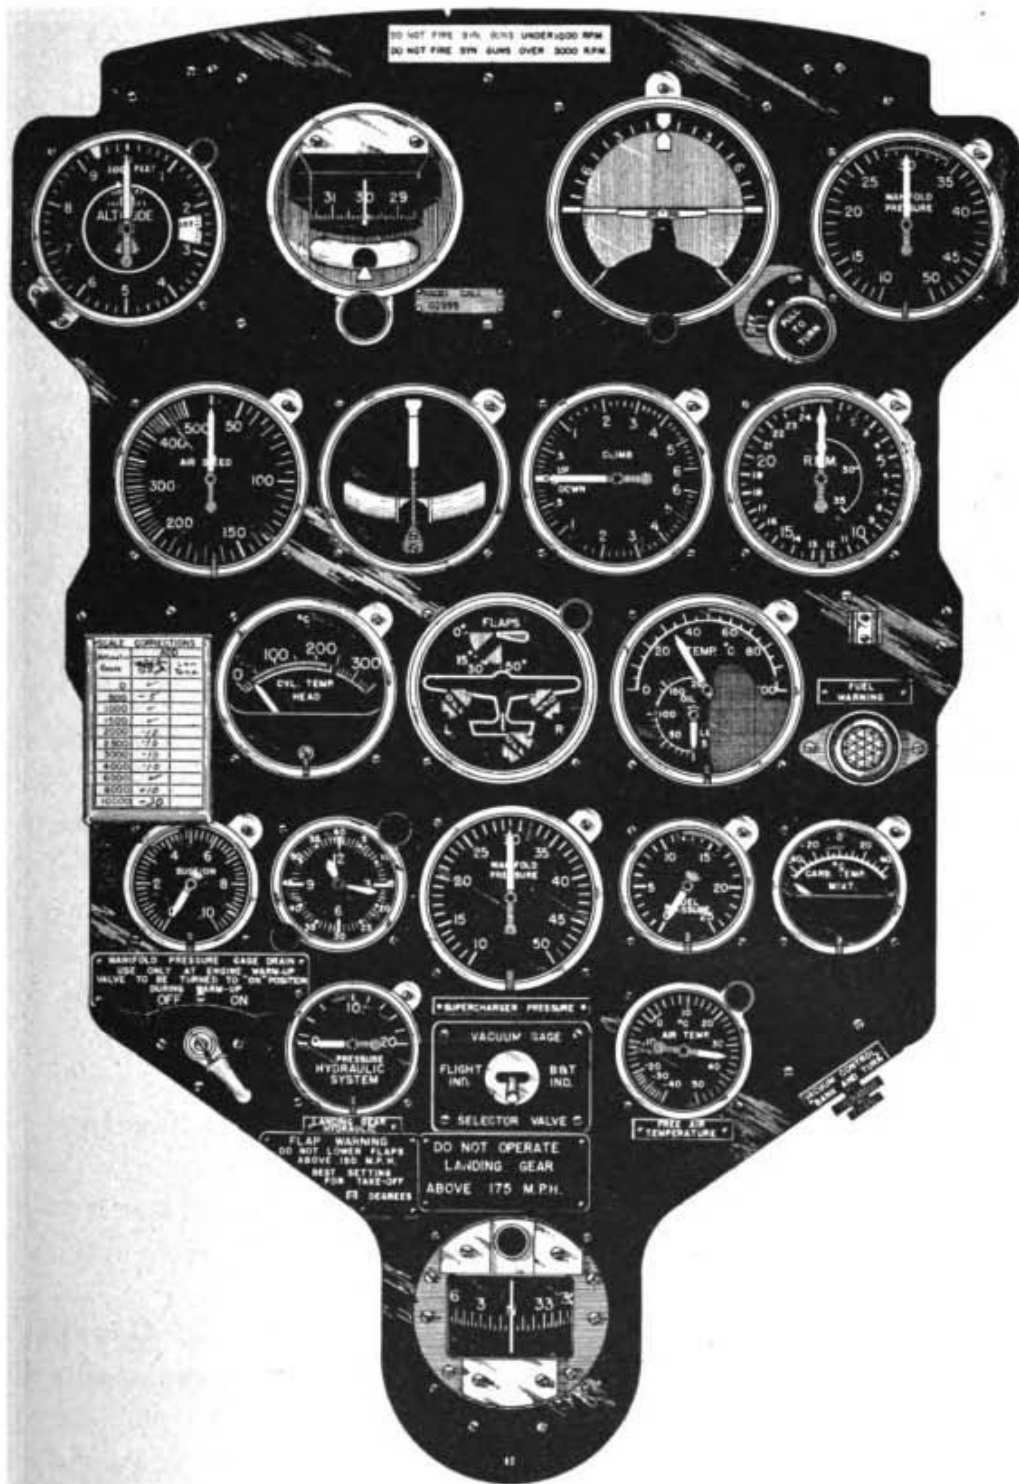

Figure 8. Single-engine airplane instrument panel.
b. Typical engine instrument installation. The term "engine instruments" usually includes all instruments required to measure and indicate the functioning of the power plant. The engine instruments are generally installed on the panel in such a way that all of them can easily be observed at one time. (See fig. 8.) Most installations will have the following instruments:
- (1) Oil pressure gauge.
- (2) Oil temperature gauge.
- (3) Fuel pressure gauge.
- (4) Carburetor mixture temperature.
- (5) Cylinder head temperature or coolant temperature indicators.
- (6) Free air thermometer.
- (7) Manifold pressure gauge.
- (8) Tachometer.
- (9) Liquidometer or fuel level gauge.
- (10) Fuel mixture indicator.